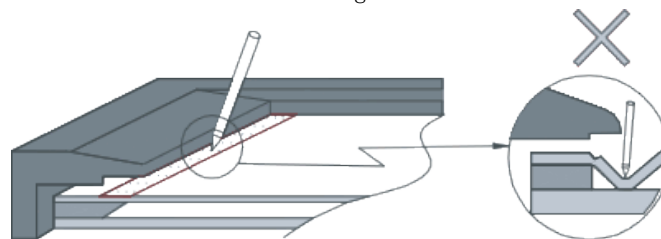

Figure 3
- (2.4) Due to the operating unbearable areas of the edge of the viewing areas, keep your company from testing the touch-screen with pen sliding in the processes of inspection and using, which shown in figure 3.